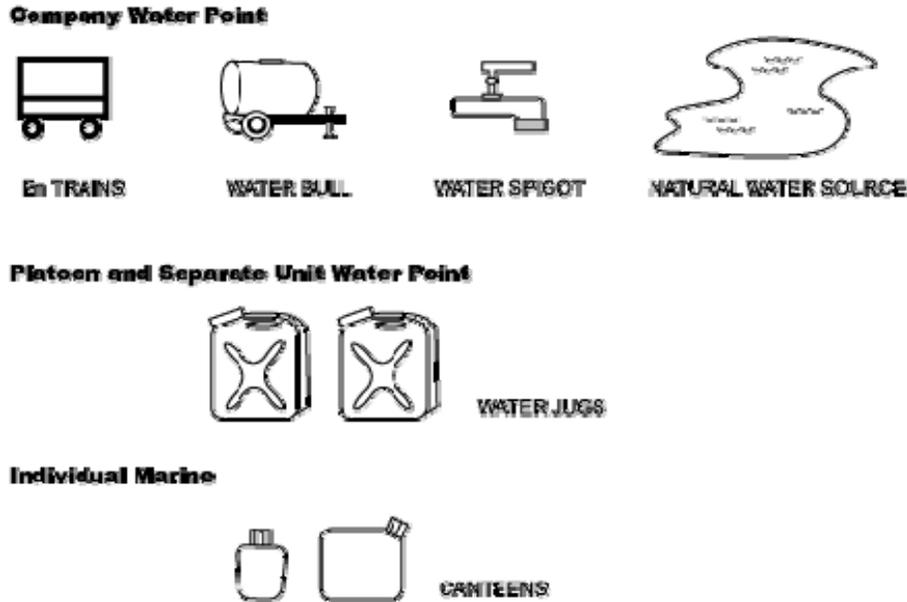

Figure 5-2. Company water distribution.
- b. Water Resupply. When augmented, the Bn Log Train establishes Company Water Points to resupply water to Bn units. *See Figure 5-2.* The Log Train has all water point tested by BAS or engineers before distribution.